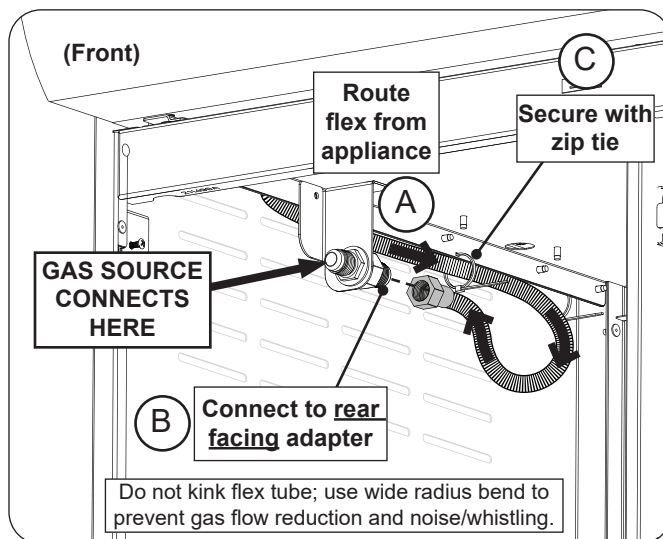

Fig. 12-1 Connect appliance flex to adapter
Route the flex connector coming from the appliance to the adapter that is pre-mounted on the upper left side of the cabinet interior. Connect the flex connector to the adapter-end facing the rear of the cabinet. See Fig. 12-1, A & B. Then, secure the flex hose to the cart body using a provided zip tie (Fig. 12-1, C).
- Read the safety warnings and follow the instructions in the SAFE USE AND MAINTENANCE OF PROPANE GAS CYLINDERS section, then connect the L.P. regulator hose to the opposite end of the pre-mounted adapter. See Fig. 12-1.